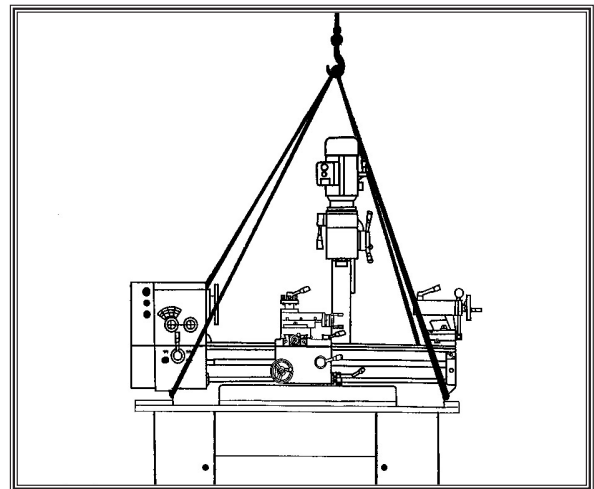

Figure 10. Lifting strap locations.
4. Insert two lifting straps under the bedways and behind the feed rod and the lead screw as shown in **Figure 10** , and support the lathe with the lifting straps and lifting device.
5. Move the apron so it located between the headstock and the mill column as shown in **Figure 10** to balance the load.